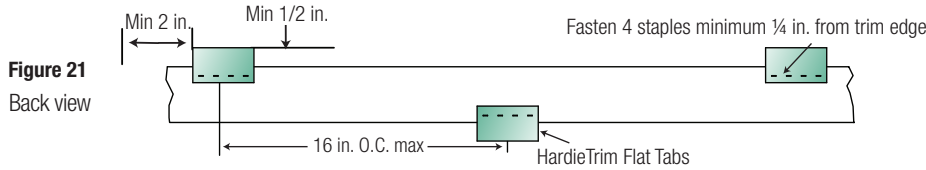

Figure 23
Step 2: For wood frame construction, attach the trim to the building with minimum 2, 6d siding nails fastened through the HardieTrim Flat Tabs (figure 23). ET&F or equivalent fasteners may be used to attach the HardieTrim Flat Tabs to steel frame construction.